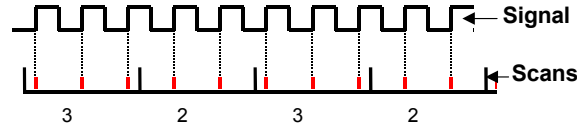

FIGURE 3.4.1-1. Varying counts within pulse interval
**For example**, if you are scanning a 2.5 Hz input once a second, in some intervals there will be 2 counts and in some 3 as shown in Figure 3.4.1-1. If the pulse measurement is averaged for a long enough duration, the result will approach the correct value.